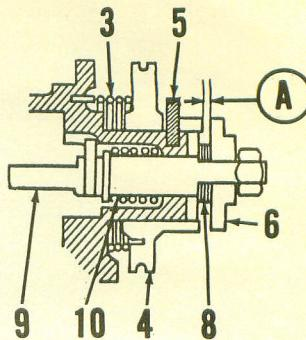

Fig. Y2-7-Clearance (A) is adjusted by varying shims (8). Refer to text for proper clearance.
Check the minimum plunger stroke by turning starter plate (16—Fig. Y2-5) until clearance (A—Fig. Y2-7) between pulley and adjusting plate is at its minimum. Clearance (A) should be 0.25-0.35MM (0.0098-0.0138 inch) for YL-1 and YL-1E models and 0.20-0.25MM (0.0078-0.0098 inch) for HS-1, HS-1B and LS2 models. If clearance is incorrect, add or deduct shims (8).